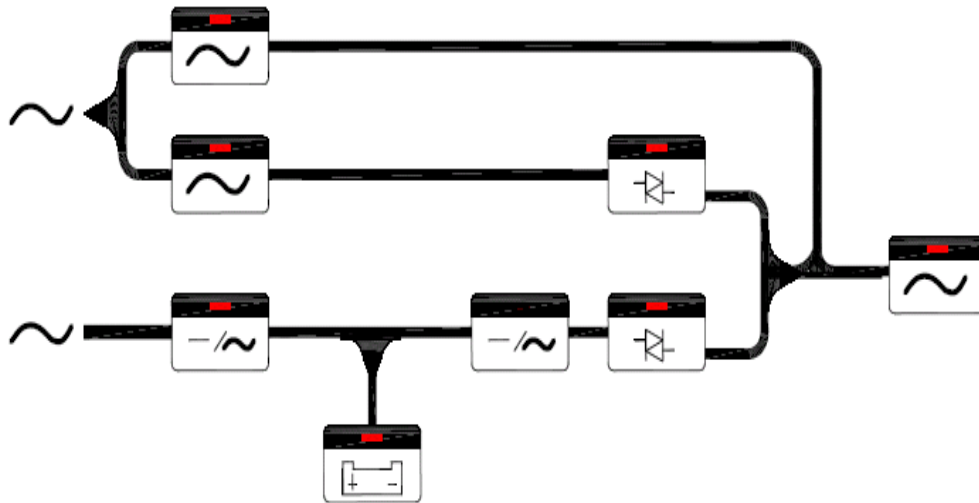

Figure 5.1 Mimic Display under normal operation
12. Push inverter ON switch – To turn on the inverter, the inverter ON switch (I) and the control switch (II) must be pressed simultaneously. The inverter will start working and the inverter output will be established in 4 seconds. The load will automatically be transferred to the inverter 3 seconds later. Now the unit is in normal operation.
13. Check if the mimic LED is correct, as shown in Figure 5.1. All warning LEDs on the right side are off, two LEDs: 'INVERTER ON' and 'INVERTER SS' on the left side should be lit. If the load is over 70%, the '70% LOAD' LED will also be lit.